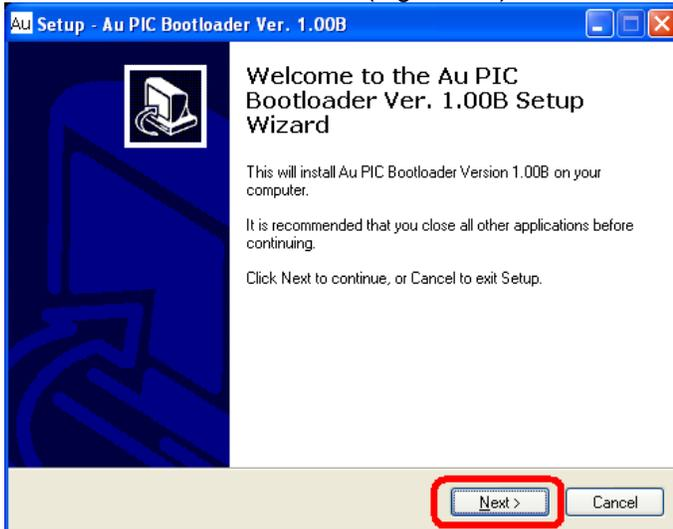

Figure B-2
2. “Welcome to the Au PIC Bootloader Ver 1.00B Setup Wizard” window show up, click “Next” (Figure B- 2)